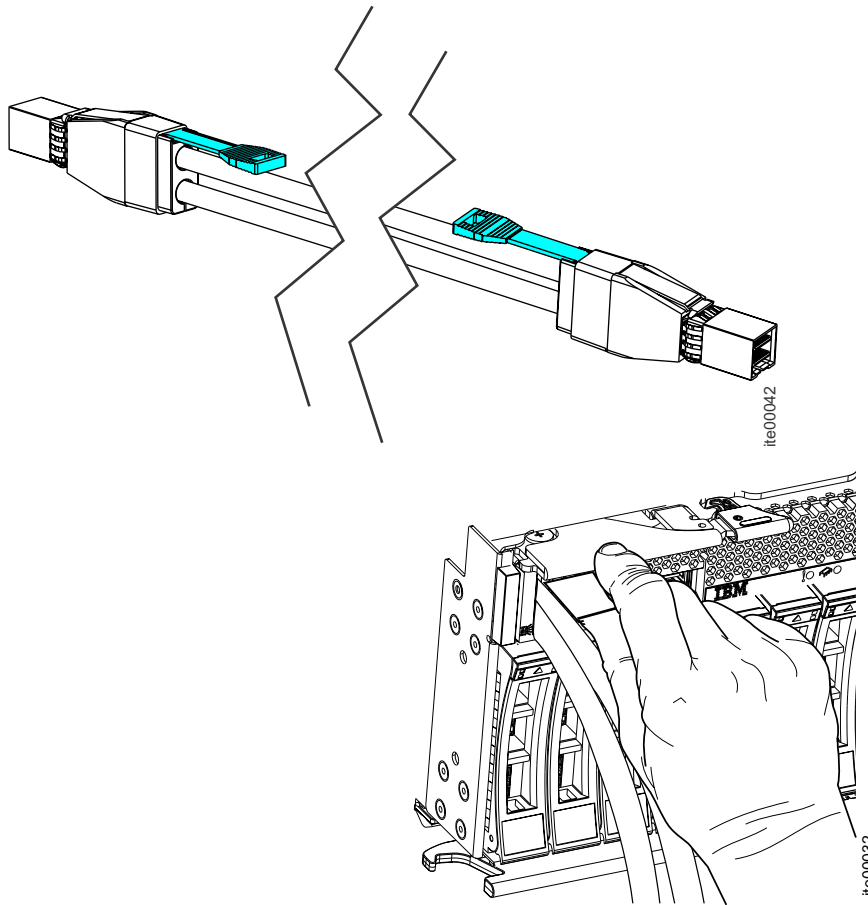

Figure 27. Disconnecting SAS cable
2. Disconnect one end of existing cable. Pull the blue tab with the arrow away from the connector to release it from the port. Figure 27 on page 45 shows the SAS cable.